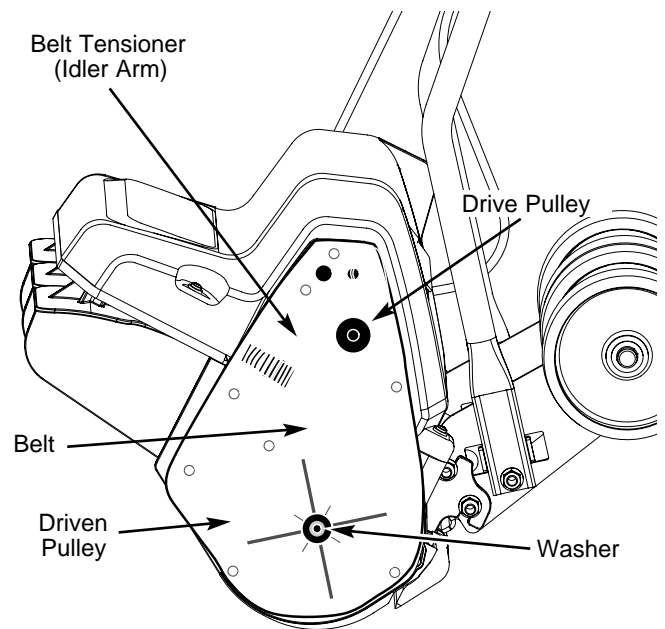

Fig. 10
3. Pull the belt tensioner (idler arm) away from the drive pulley. Remove the damaged or broken belt from the driven pulley and drive pulley. Discard appropriately (Fig. 10).
4. Loop the new belt around the drive pulley and driven pulley (Fig. 10). Pull the belt tensioner (idler arm) away from the drive pulley to install the belt around the drive pulley.